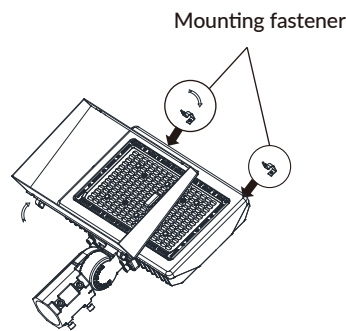

Figure 2
2. Note the longest flat part of the mounting fasteners with screw hole. Slide in the Mounting Fasteners with the longest face inside the visor, clips the other side of the fastener to the fixture housing. The screw holes of the fastener and the visor should be aligned (Figure 2);
3. Secure the visor, by screwing the Mounting Fasteners to the visor and to the housing with the provided screws, screw until tight and securely fastened. (Figure 2&3);